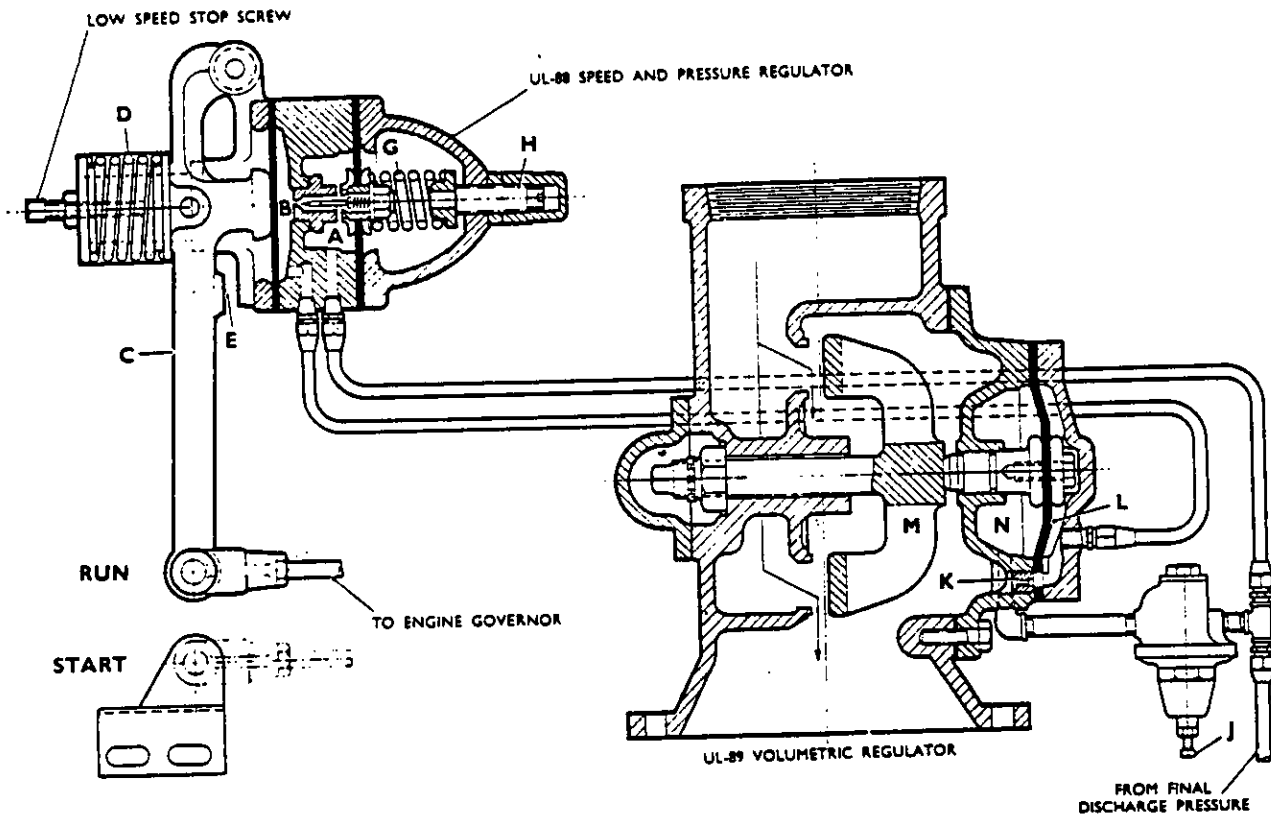

Fig. 17 —UL-88 Speed and Pressure Regulator, UL-89 Volumetric Regulator and Pressure Reducing Valve.
UL-88 "Air Glide" Speed and Pressure Regulator in conjunction with the UL-89 Volumetric Regulator and a pressure reducing valve (see Fig. 17).
Chamber "A" is directly connected through tubing to the delivery end of the secondary oil separator and thus is subject to final discharge pressure at all times. Chamber "B" is connected through tubing to the operating diaphragm chamber "L" (Fig. 17) of the UL-89 Volumetric Regulator, where a small orifice "K" is provided to bleed off a portion of the regulating air to give range control to the system.
2. At the same time, the increase in chamber "B" pressure, which is also effective on the operating diaphragm (Fig. 17) of the UL-89 Volumetric Regulator, is now sufficient to start closing the intake regulator valve "M". Here again the closing of the valve is in an infinitely variable manner and the resulting capacity of the unit is progressively reduced.
UL-89 VOLUMETRIC REGULATOR (Fig.17)